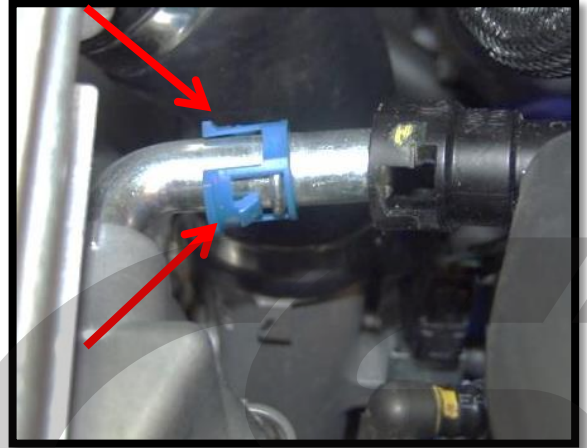

Figure 3c
- f) **Remove the valve cover breather tube.** Push the hose connector toward the valve cover and press both sides of the colored clip simultaneously. Pull the hose away from the valve cover (**Figure 3c**). Some models may just have a basic hose instead of the clip shown.